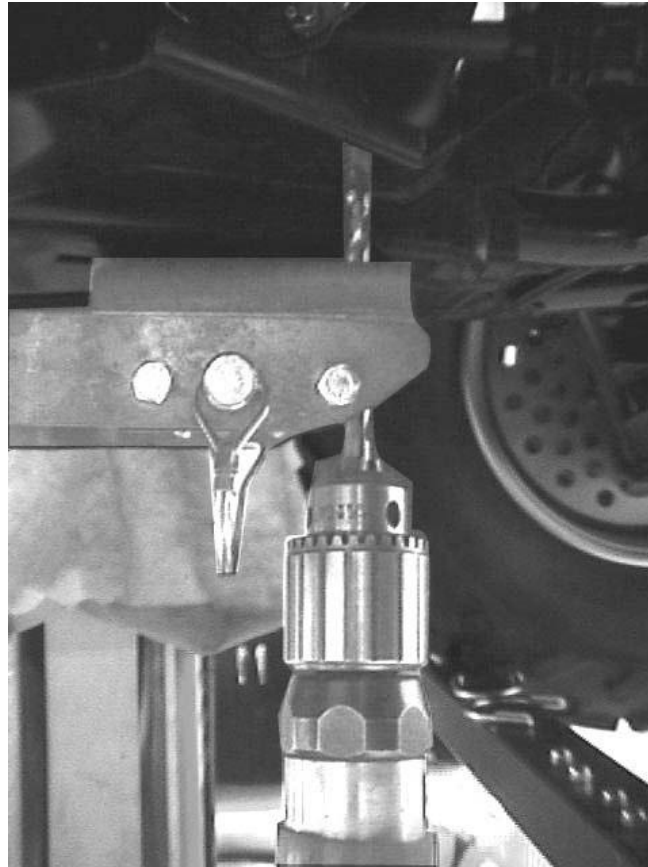

Figure 3
9. Using the existing cross-member plate holes as locators, drill through all four cross-member holes with a 5/16" drill bit as shown in Figure 3.